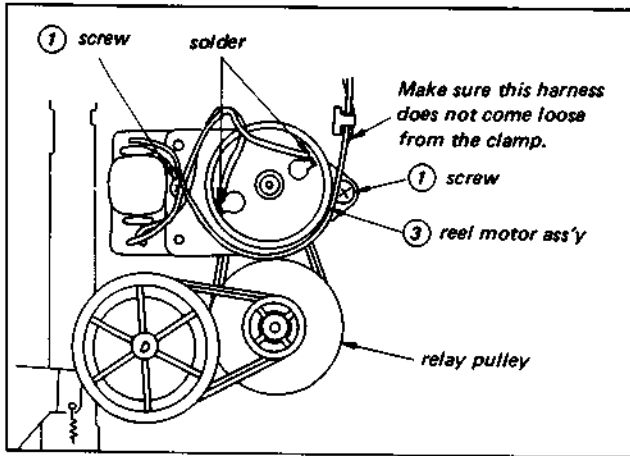
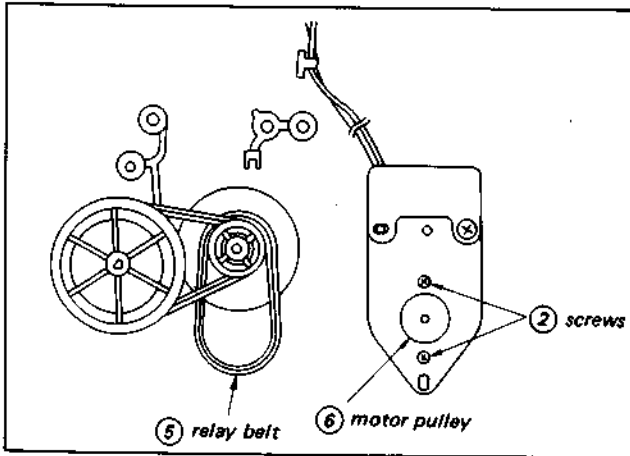

Fig. 3-29. Reel motor replacement (1)
Fig. 3-30. Reel motor replacement (2)
- 2) As shown in Fig. 3-29, unsolder the harness and remove.
- 3) Remove the two screws ①.
- 4) Remove the two screws ② and the reel motor assembly ③. (See Fig. 3-30)
- 2) Hook the relay belt ⑤ to the motor pulley ⑥ as shown in Fig. 3-30, and tighten the two screws ① as shown in Fig. 3-29.
- 4) Set the harness as shown in Fig. 3-29.